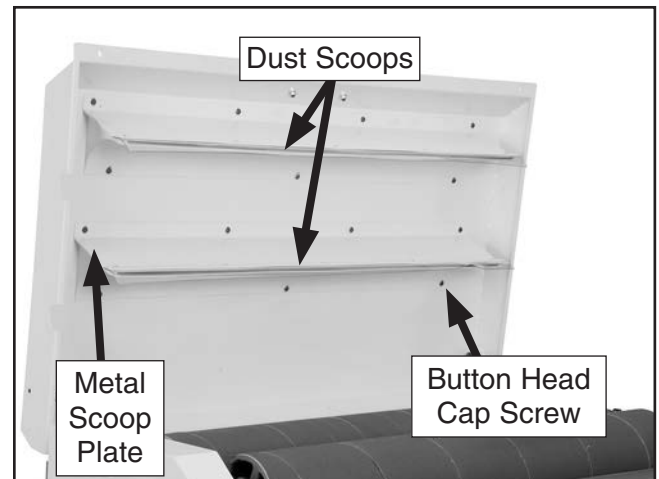

Figure 66. Location to adjust dust scoop.
3. Loosen the button head cap screws and acorn nuts securing a metal scoop plate to the top cover (**Figure 66**), move the scoop up a little, tighten the button head cap screws and nuts, close the top cover, and rotate the V-belt to see if the drum scrapes the scoop.